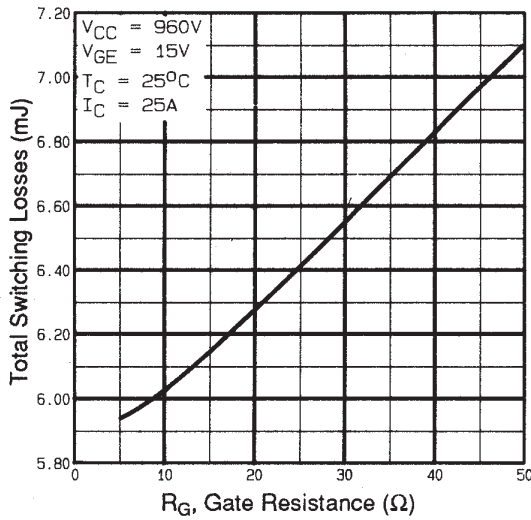

Fig. 9 - Typical Switching Losses vs. Gate Resistance
| $t_{d(on)}$ | Turn-On Delay Time | — | — | 68 | ns | $I_C = 25A, V_{CC} = 400V$ $V_{GE} = 15V, R_G = 2.35\Omega$ Energy losses include "tail" ⑤ See Fig. 9, 10, 14 |